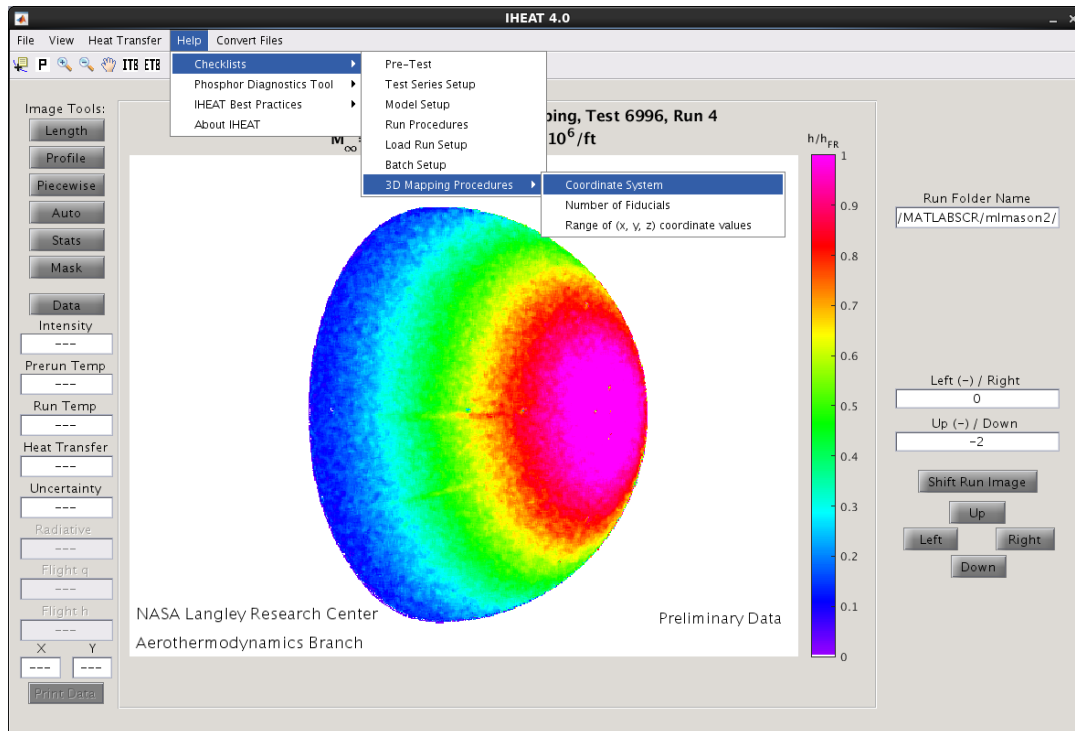

Figure 7: Help Menu, Checklists.
1. *Checklists*: The lists in figure 7 tell the user how to run a phosphor thermography wind tunnel test. The checklists are displayed in the IHEAT v4.0 terminal window, including sections for the *Load Run*, *Batch*, and *Three-Dimensional (3D) Mapping* capabilities for analyzing the phosphor thermography data.